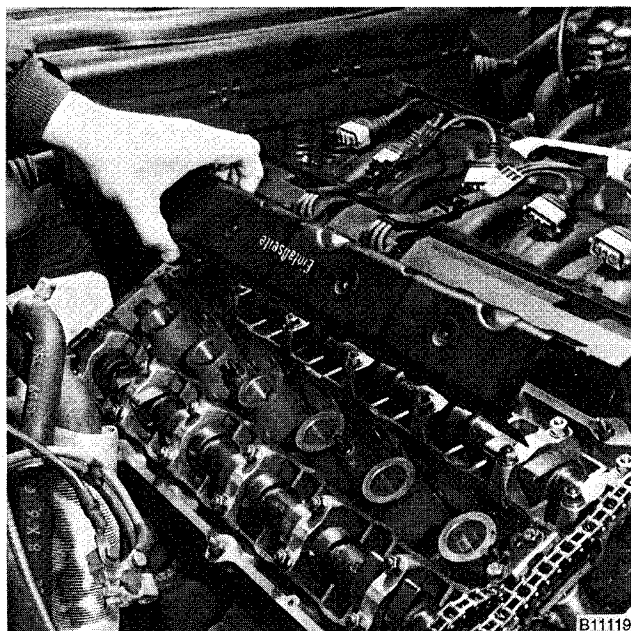

Fig. 18. Oil baffle cover being removed.
10. Unclip and remove baffle cover from above intake camshaft. See Fig. 18.